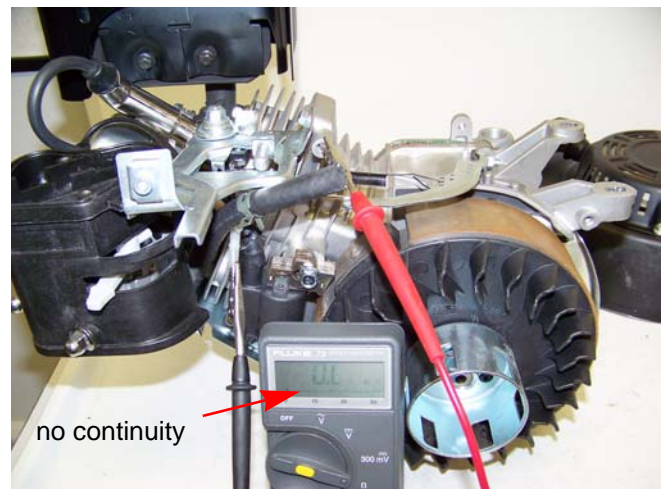

Figure 7.4
- When the throttle is all the way to the left (full throttle), the multimeter should not show continuity. See Figure 7.4.